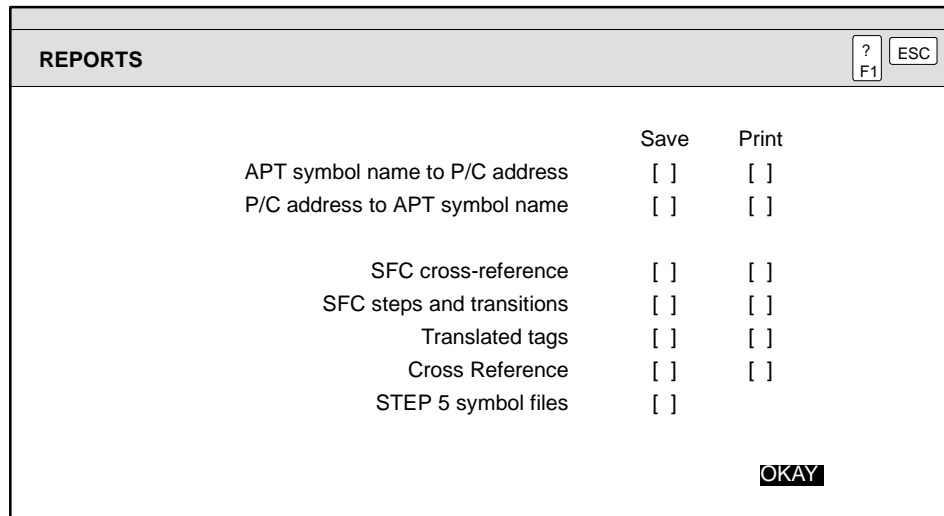

Figure 6-16 Using Object Reports (S5)
1. Press , or use the **OPTs** icon to select **Report**. The dialog window appears as shown in Figure 6-15 for a Series 505 controller, or Figure 6-16 for an S5 controller.
Figure 6-16 shows the dialog window that appears if you have an S5 controller when you choose to view an object report.